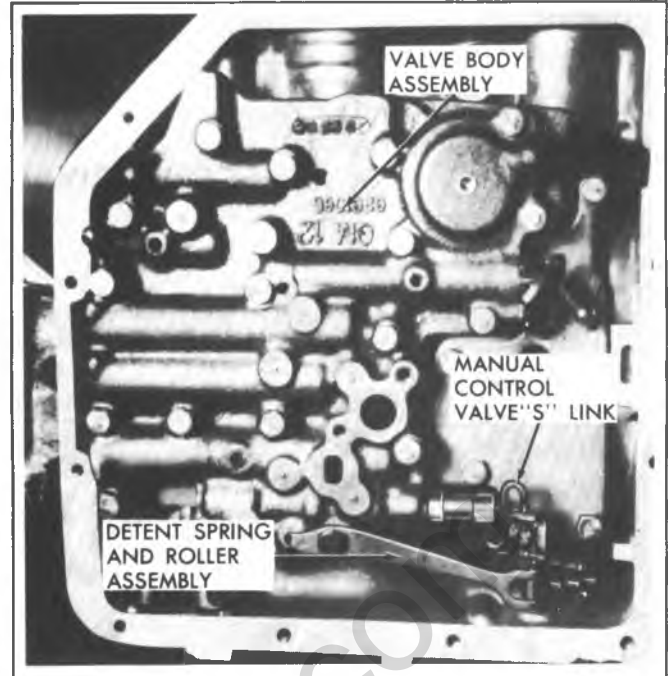

Fig. 7A-20—Detent Spring/Valve Body
3. Remove detent spring and roller assembly from valve body and remove valve body-to-case bolts. Refer to Fig. 7A-20.